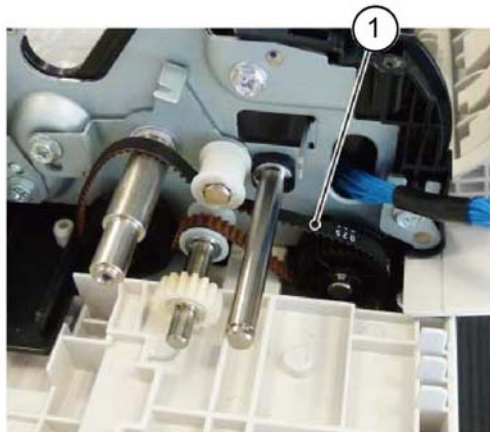

Figure 5 Drive belt removal
10. Remove the DADF drive belt (1), Figure 5.